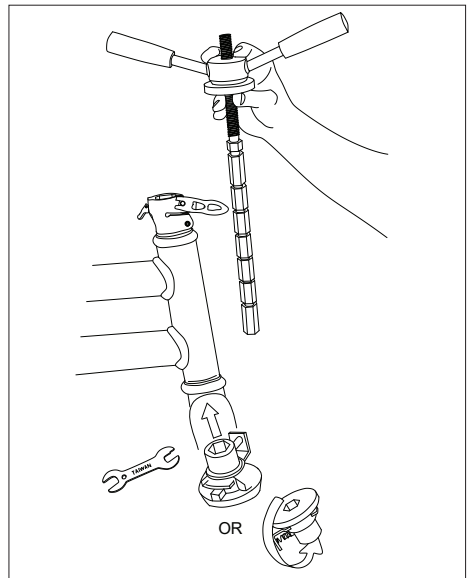

Fig. 51a: Headset press into Octagon and fork
5. A traditional headset press tool or a BMX style headset adjustment tool can be used to compress the headset bearings. Slide the tool through the Octagon collar and steerer tube of the fork while on the bike and secure the bottom of the tool (Fig. 51a & 51b).